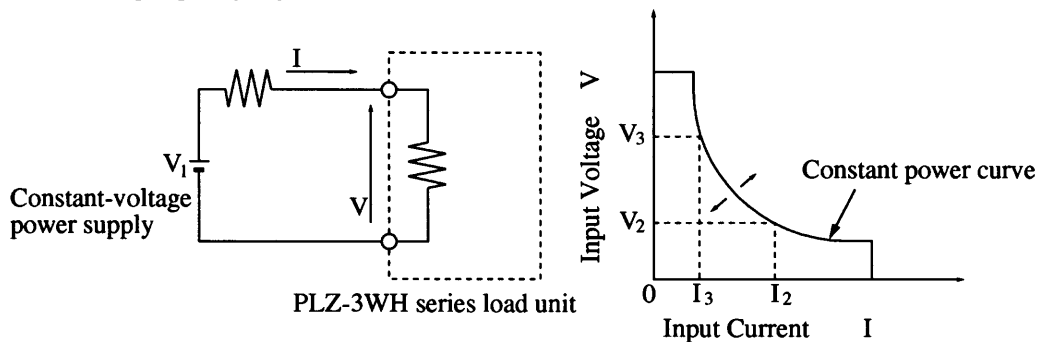

Fig. 4.3-4
■ Basic operation of CP mode (see Fig. 4.3-4)